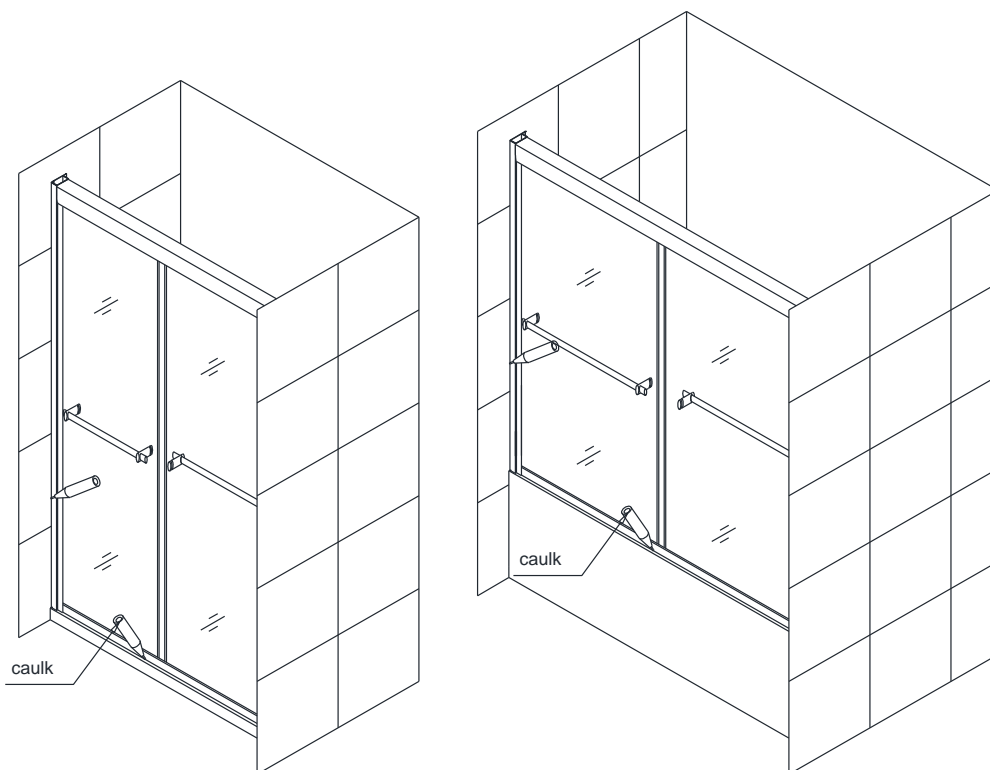

Fig. 19
14. From inside of the shower, apply a good quality mildew-resistant silicone along the profiles and the guide rails; on the seams between the bottom guide rail and the vertical profiles as well as along the shower base or threshold. You may also apply silicone from the outside if you choose. See Fig. 19 for details.